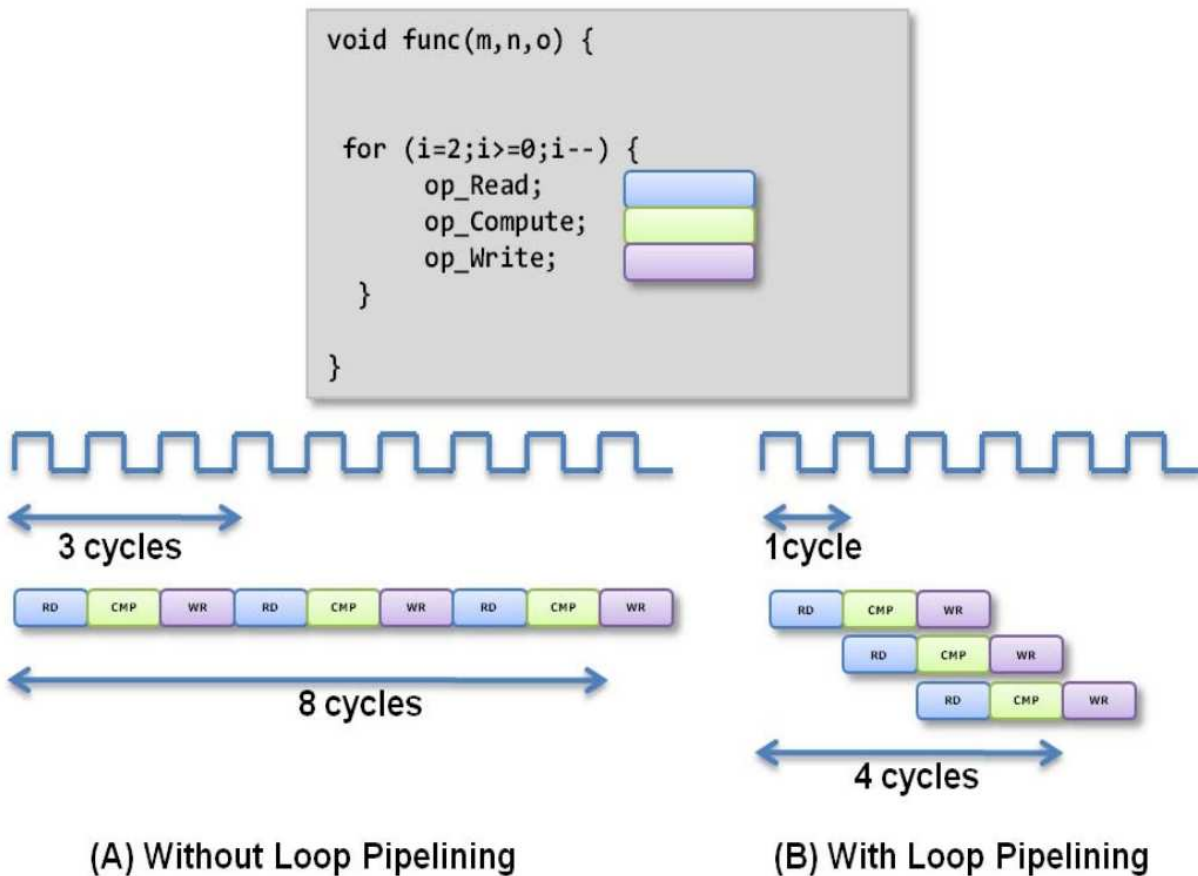

Figure 2: Loop Pipelining Example [4].
Figure 2 shows an example of loop pipelining [4]. Figure 2(A) shows the sequential loop, where the $\Pi=3$, and it takes 8 clock cycles for the 3 loop iterations before the final write is performed. Figure 2(B) shows the pipelined loop. In this case, there are no resource contentions or data dependencies. Hence the $\Pi=1$, and it takes 4 clock cycles before the final write is performed. You can see that loop pipelining can significantly improve the performance of your circuit, especially when there are no data dependencies or resource contentions.